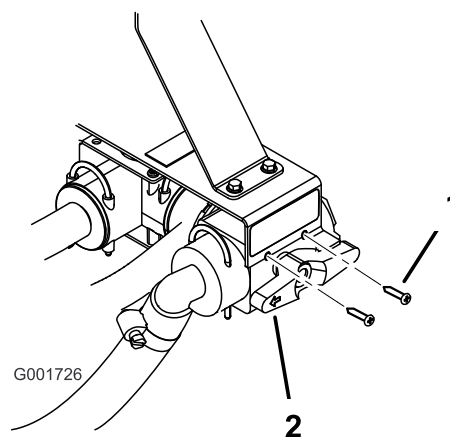

Figure 11
8. Secure the new control valve to the bracket using two screws (Figure 11).